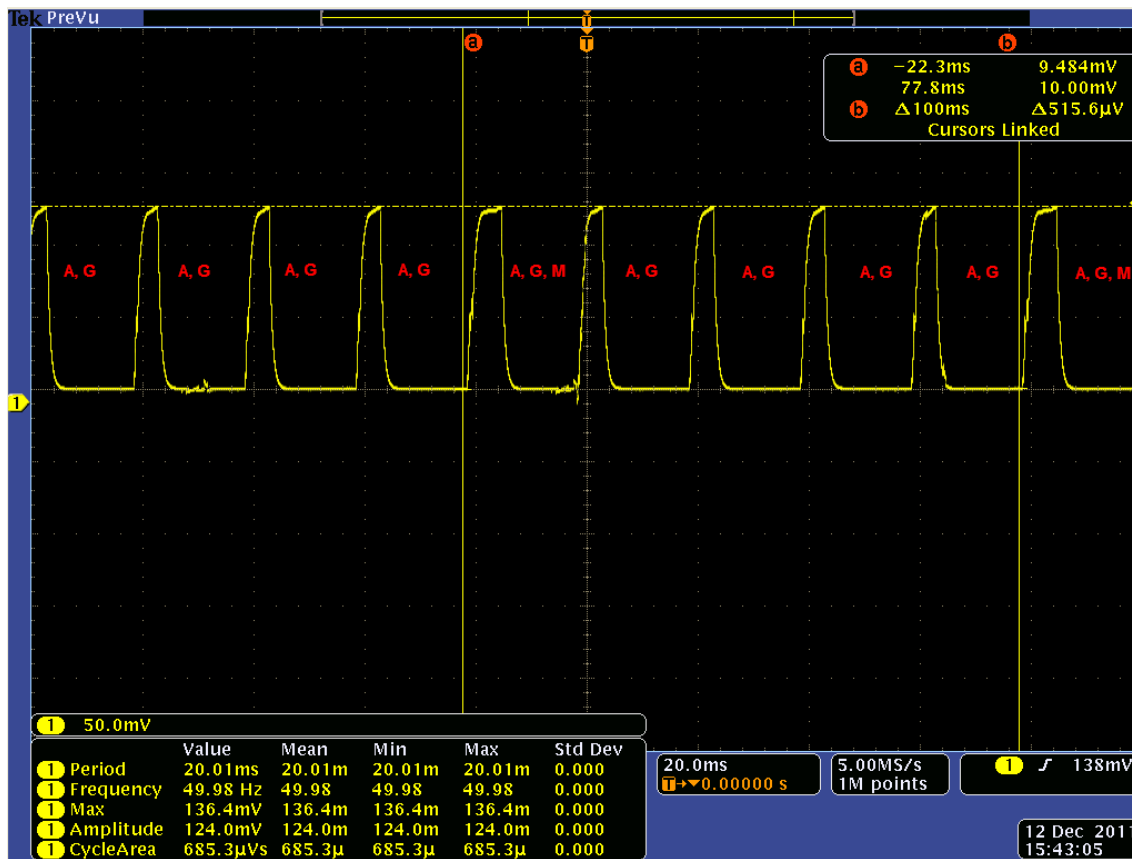

Figure 9. MSP430 Voltage Measurement
This section covers the power consumption of the sensor platform and the MSP430 requirements. The voltage across a shunt resistor (26.63 Ω) connected to the V_{CC} of the MSP430F5xx can be seen in Figure 9. The voltage measurements were taken with the USB module disabled and low-power-mode 3 enabled when the MSP430F5xx was neither reading the sensors nor calculating the DCM algorithm. The MSP430F5xx consumes $\sim 5 \mu\text{A}$ in low-power-mode 3 and $\sim 5.6 \text{ mA}$ in active mode. The AHRS board requires being battery powered when the transmission of the Euler angles is via BLE. The cycle area of the voltage is 685.3 μVs , where each cycle is 20 ms. Therefore, the average voltage is $685.3 \mu\text{Vs} / 20\text{ms} = 34.265 \text{ mV}$. Using Equation 2, the average current consumption of the MSP430F5xx is $34.265 \text{ mV} / 26.63 \Omega \sim 1.28 \text{ mA}$.
Figure 9 shows the reading the motion sensors at different frequencies; the magnetometer (M) is read at a 10 Hz rate, while the accelerometer (A) and gyroscope (G) are read at 50 Hz. This figure shows the MSP430F5xx using ~30% of the CPU. The accuracy of the MSP430 AHRS board is TBD. Table 2 includes the current consumption measurements for the different ICs in the AHRS board.